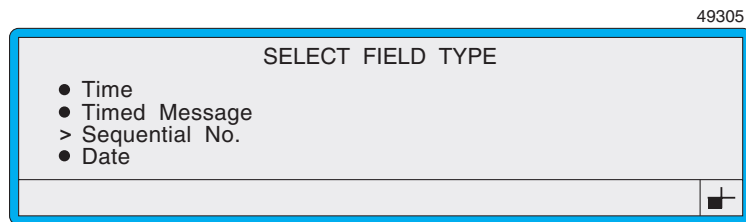

Figure 4-26 Select Field Type Menu: Sequential No. Option
3. Scroll to the **Sequential No.** option (as shown in Figure 4-26 above), then press the [enter] key.